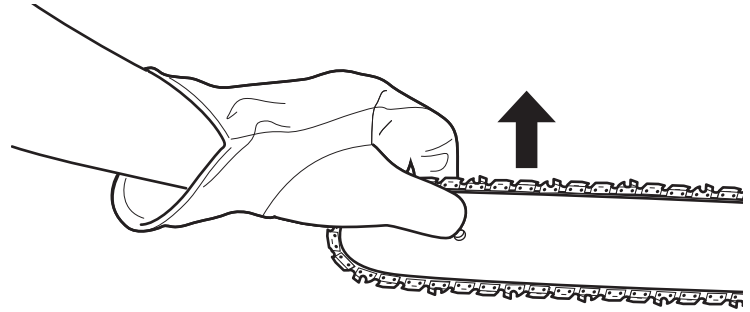
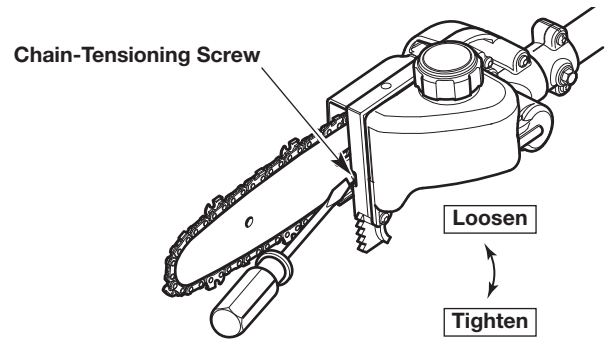

Fig. 17
Fig. 18
2. Hold the guide bar tip up (Fig. 17) and use a flat-head screwdriver to turn the chain-tensioning screw (Fig. 18).